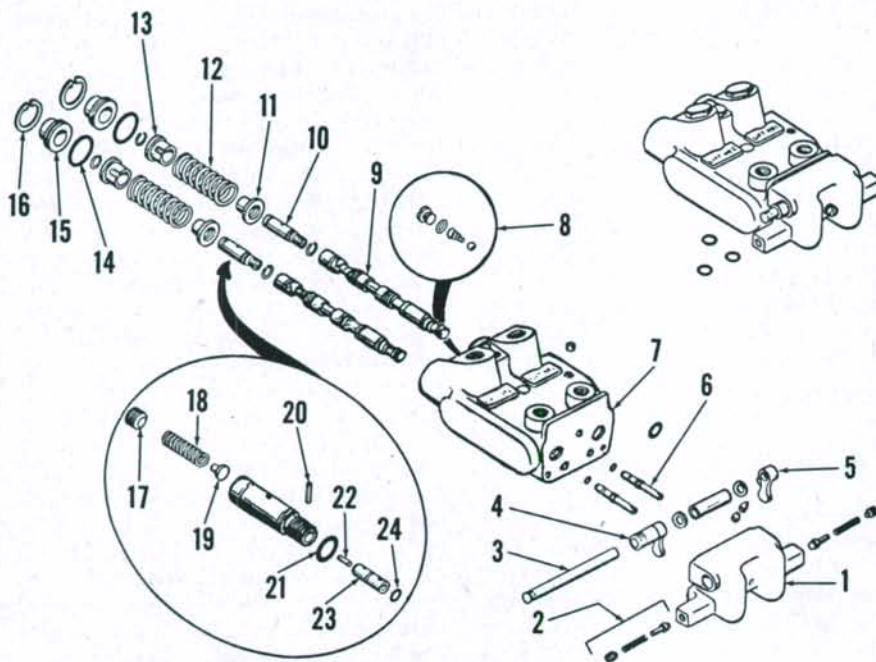

Fig. 306—Exploded view of 2-spool auxiliary valve used on early models. A single spool valve is also available and is similar in design.
**235.** Two different types of auxiliary control valves have been used. The valve assembly shown in Fig. 306 is used on early models and the valve shown in Fig. 307 is used on later models. Refer to the appropriate following paragraphs for service procedures covering each control valve.
**236. EARLY PRODUCTION VALVE.** Refer to Fig. 306 for an exploded view of 2-spool early style auxiliary valve. A single spool valve is also available. Service procedures are similar for either valve.
**237. ADJUSTMENT.** A hydraulic flow meter must be used to properly adjust the auxiliary valve. Connect flow meter inlet hose to coupler No. 1 and connect flow meter outlet hose to coupler No. 2. Operate engine at 1000 rpm and move auxiliary valve control handle to "lift" position. Tighten detent adjusting screw (2—Fig. 306) until handle remains in "lift" position. Slowly close flow meter restrictor valve and note pressure at which valve spool "kicks out" of detent and control handle returns to neutral position. Spool should "kick out" of detent when pressure is between 13100-14480 kPa (1900-2100 psi).